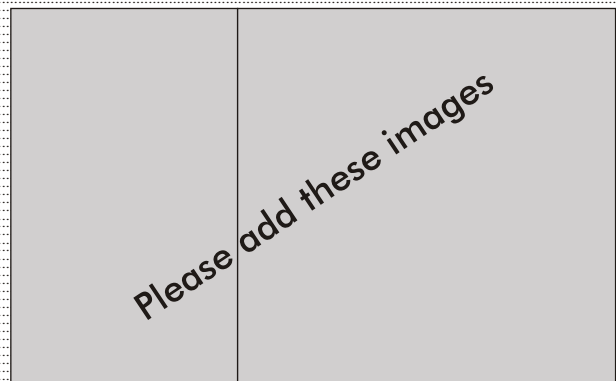

Fig. 1.18
- To install oil seal in kick starter shaft. (Fig 1.18)